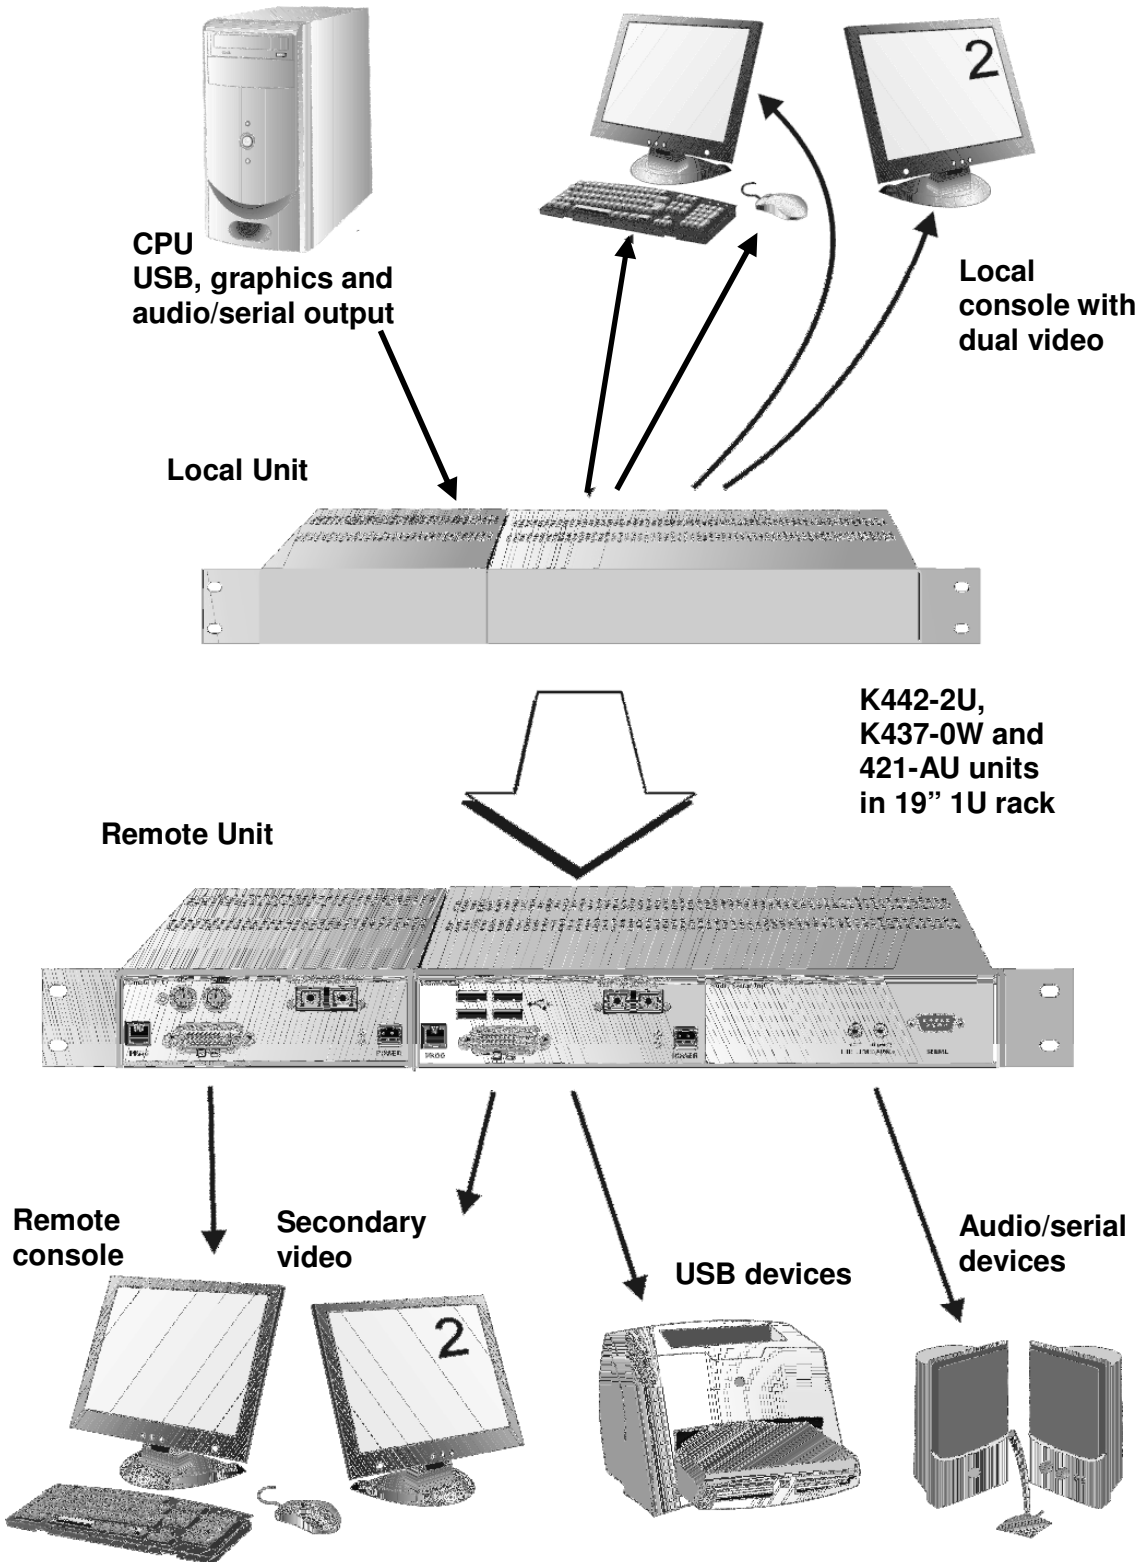

Figure 24 Dual Head application with PS/2, USB and audio/serial extension
- Dual Head application with PS/2 keyboard/mouse, USB support and audio/serial in 19"/1U (Figure 24).